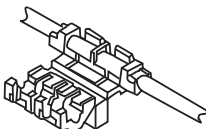

Figure 6
3. Insert the free end of W-4 into the Fuse Tap making sure to seat the wire through the tap so that it presses against the center stop in the Tap. (Fig. 6).